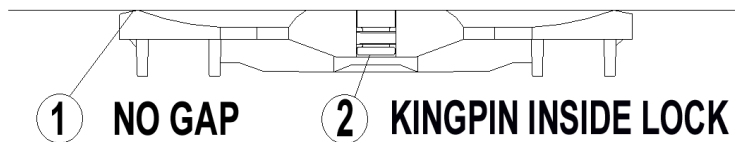

FIGURE 2
- a. Check that there is NO GAP between the trailer bolster and the fifth wheel (see figure 2).
- b. Check that the KINGPIN is INSIDE the LOCK (see figure 2).